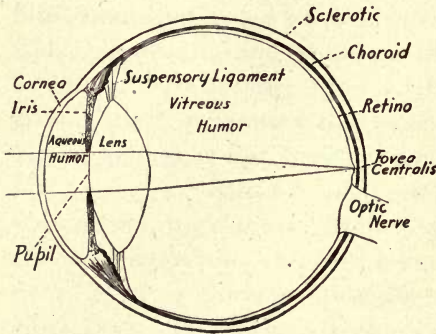

FIG. 212.—Showing a Section of the Eyeball.
**Structure of the Eyeball.** — The eyeball has a diameter of about one inch. Except at the front and at the place where the optic nerve enters, the eye is covered with an opaque, white coat called the **sclerotic coat** (Figure 212). This coat forms the white of the eye and the transparent